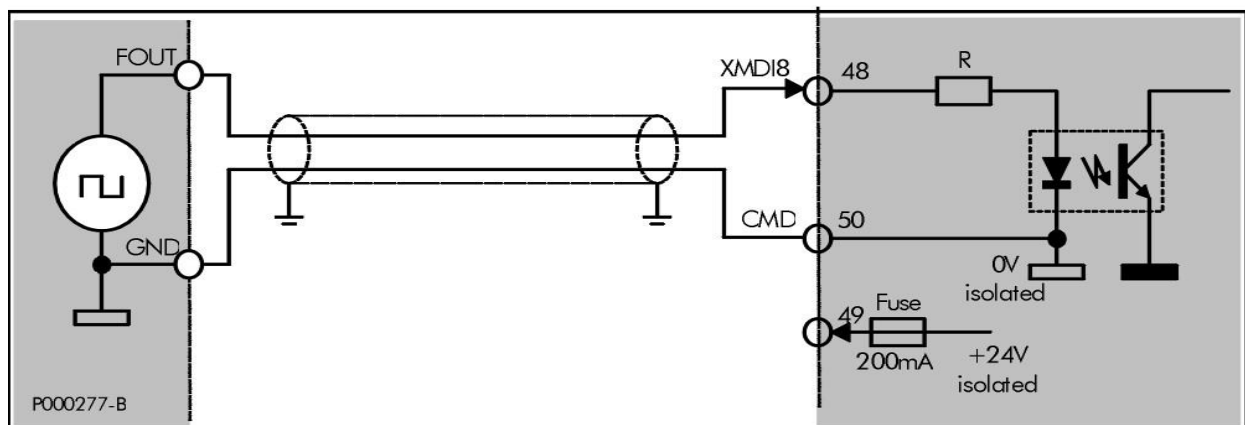

Figure 127: Signal sent from a 24V, Push-pull frequency output
Signals are sent from a 24V Push-pull output with a reference common to terminal CMD (50), as shown in Figure 127).